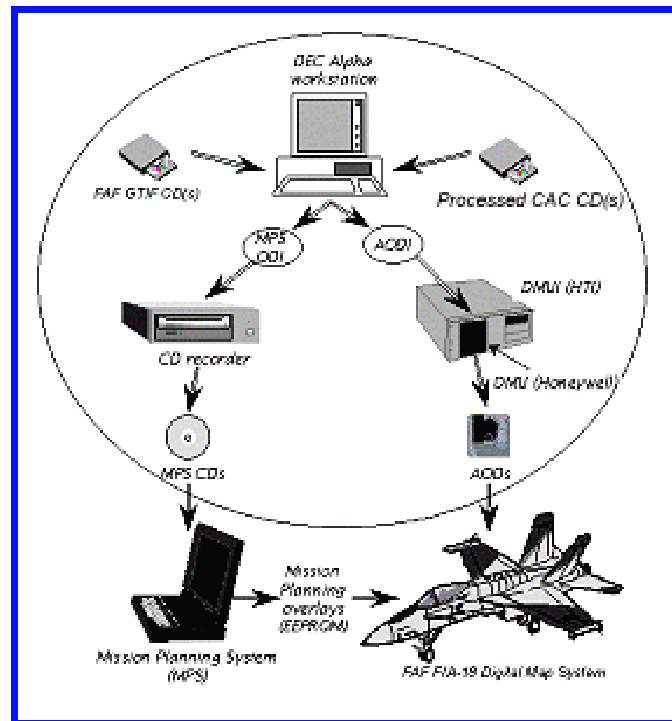
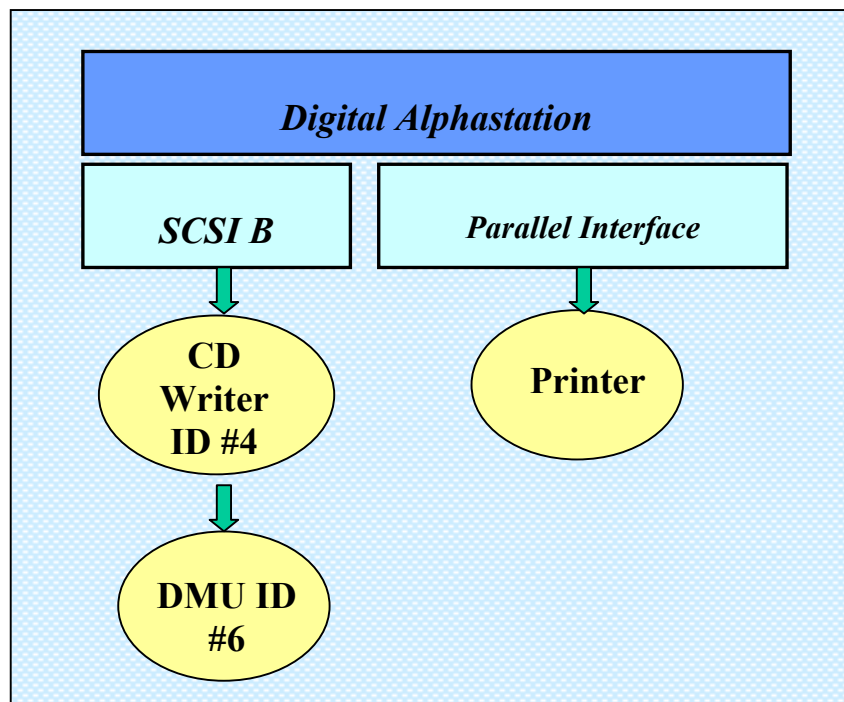

Fig. 1 – MMC hardware components
Fig. 2 – Hardware connections to major peripherals
Table 1 provides a list of commonly used acronyms in this document. Figure 1 provides an overview of the hardware platform hosting MMC 3.4P. Figure 2 provides a diagram of hardware connections from this platform to major hardware peripherals. Note that as of Design Review (DR) Meeting #1, FiAF does not own all the hardware peripherals that MMC supports.